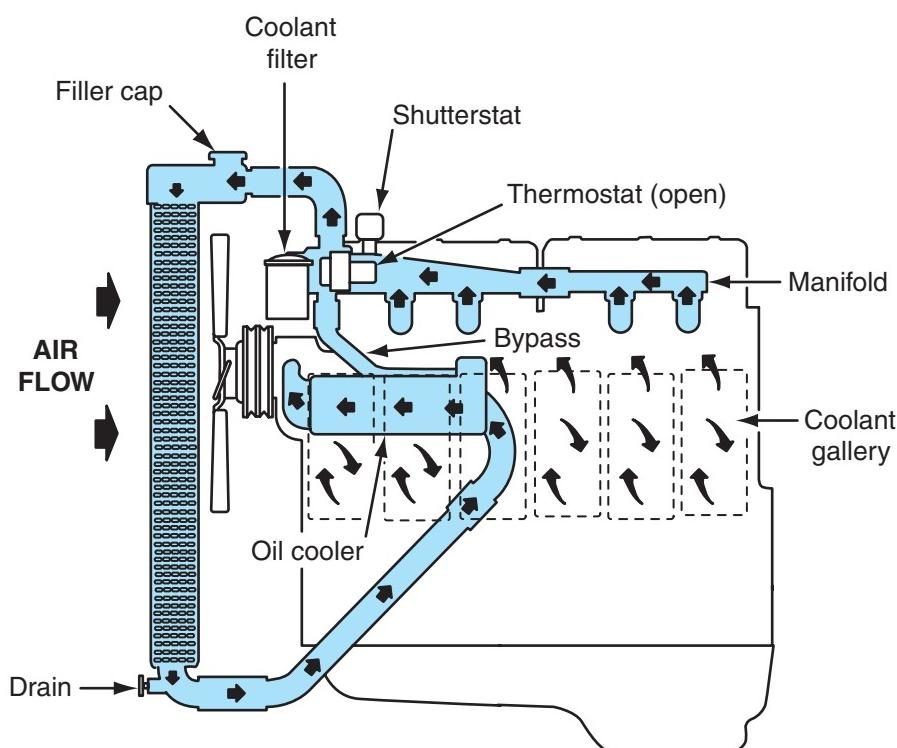
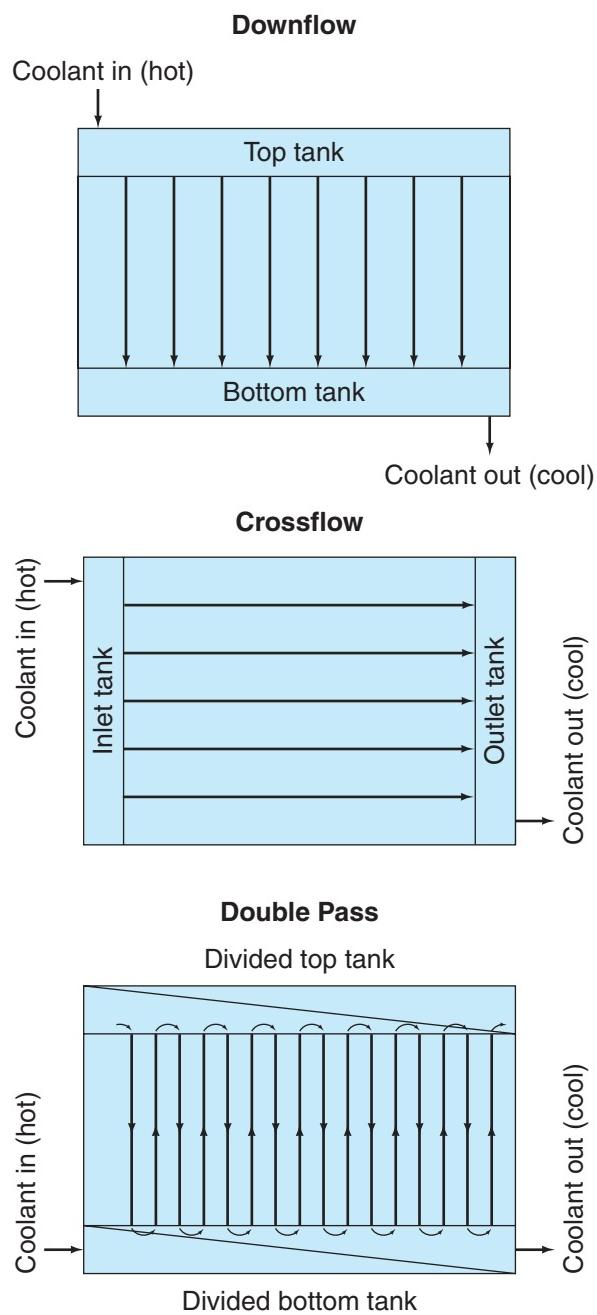

Figure 8-6 Cooling system flow with a downflow radiator.
Figure 8-7 Coolant flow shown on downflow, crossflow, and double pass radiators.
- **Downflow radiators:** Coolant enters the radiator through the top tank and flows, aided by gravity, to the bottom tank by means of vertical tubes. These tubes connect the upper and lower tanks. Downflow radiators are a single-pass design. Coolant is routed from the engine to the top tank, flows to the bottom tank, and then exits. The location of a typical downflow radiator is shown in **Figure 8-6** and the coolant routing is illustrated in **Figure 8-7**.